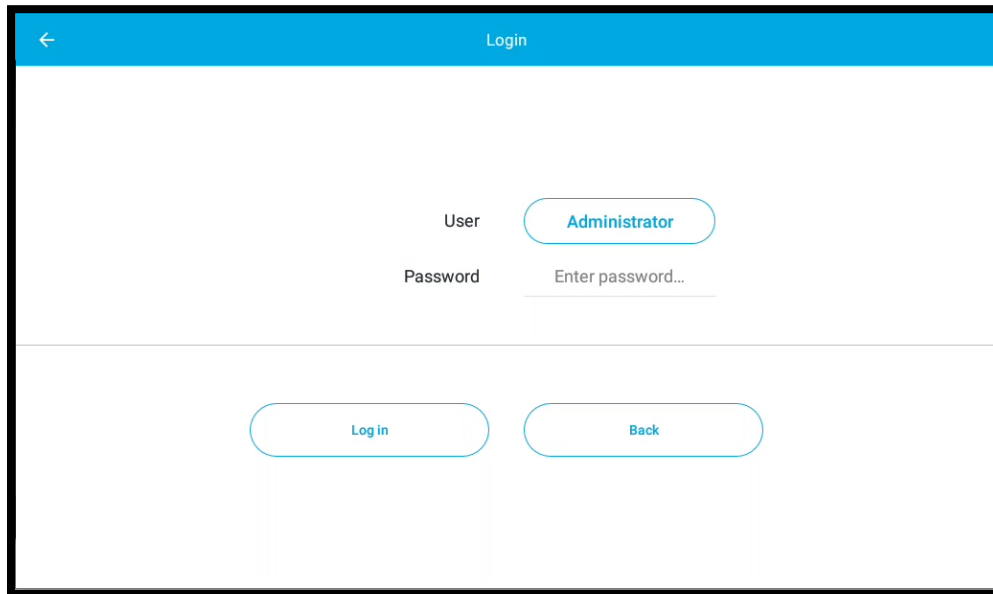

Figure 3.3 Administrator Log-in Page
- 2) Select user as **Administrator**, then enter administrator password (default is **39935069**) to enter administrator settings menu (**Figure 3.3**).